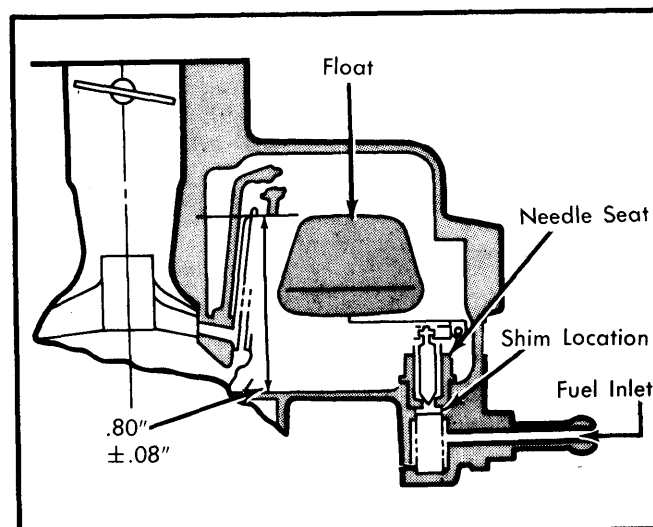

Fig. 1 Checking Float Level
1) Invert air horn assembly (without gasket). Allow weight of float assembly to seat inlet valve. See Fig. 1.